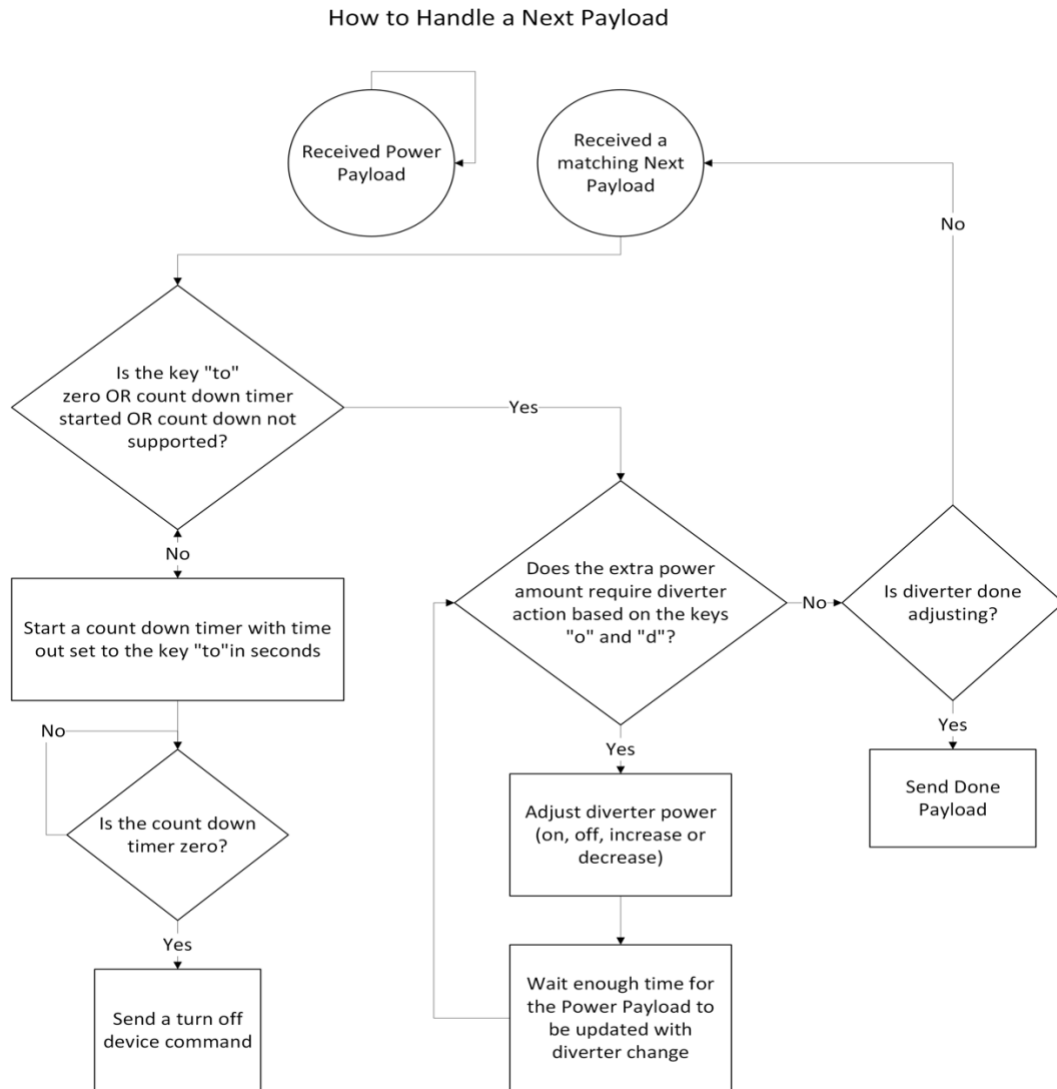

Figure 3
The keys “main”, “solar”, “gen”, “imp”, “exp” and “uprate” are not used for the power diverter. They are used for information purposes to display the power usage in other applications. The specific meaning of each one is in the operating manual for the Power MC. The only key that is relevant for the power diverter is the “extra” key. This number can be either positive or negative. If it is negative, then it means your device needs to conserve power. This can be achieved by adjusting it to use less power or turn off. If it is positive, it means your device needs to consume power. This can be achieved by turning on the power or adjusting it to use more power. The goal is to try to adjust your device so that the extra is as close to zero as possible when the PowerMC notifies your device it’s time to adjust (Figure 3).
This payload data is how your device knows when to respond to adjusting the power usage (Figure 3). Only respond if the key “m” has a string that matches your device’s key “mac” sent in the ID payload. For example, it can be the MAC address of your device. The key “idx” is the assigned index that the PowerMC has been assigned your device. Use the assigned index to indicate to the PowerMC that your device has completed its adjustment when sending the Done Payload. The key “o” (offset) is used to adjust the extra power usage as the target goal to this number. The key “d” (down scan) is used to determine if the adjustments are finished by understanding if the objective is to conserve or consume. A ‘1’ is to conserve and a ‘0’ is to consume which also dictates scan direction of each device with down being from lowest to highest priority. The key “to” used set a time out for the optional temporarily-on feature while waiting on a higher priority device to start using power. If it is 0, it means there is no time out. If it is non-zero, the number is the maximum number of seconds your device should remain on before turning off. Use the non-zero number to start a countdown timer. When the countdown timer reaches zero, send a turn off command to turn off your device regardless of the on/off state or if it is your device’s turn to take action.
- Device's task completed data – Publish when adjustment is finished by following the flow chart below (Figure 3).